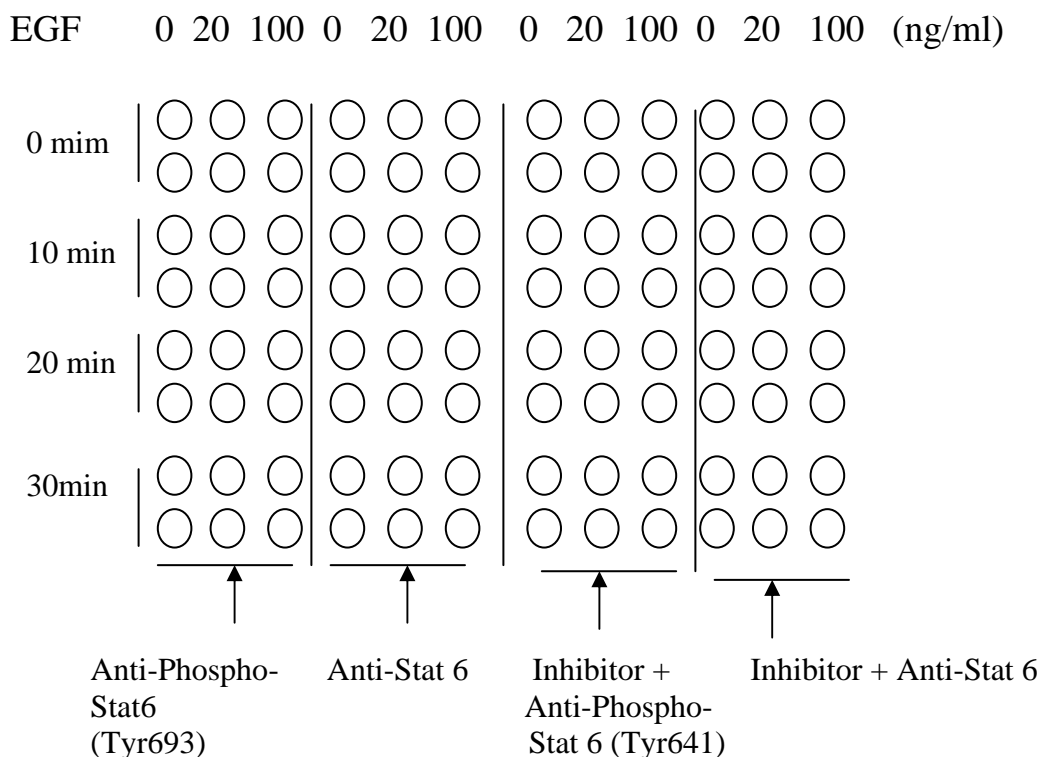

Fig. 2 Example of how to seed cells for RayBio® cell-based assay
1. Design your experiment. For example, see Fig2 and 3.